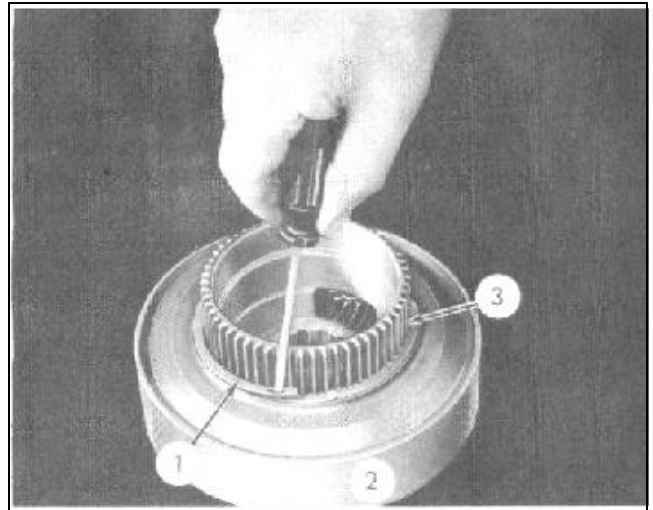

FIGURE 97
6. If necessary to remove the reverse drum from the front planetary carrier, remove the snap ring (1), Figure 97, by inserting a small screw driver in the slot of the snap ring and lifting